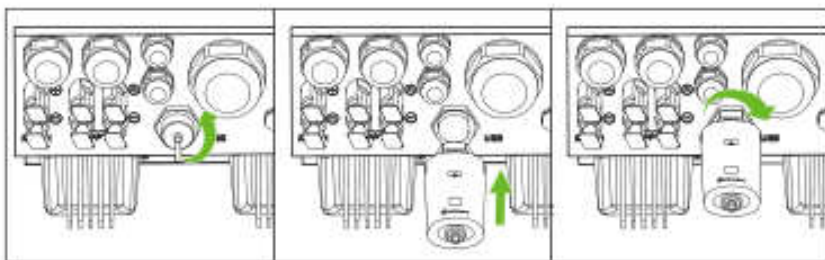

Fig.6.21 USB Connection
- 2> As shown in Fig 6.21, Insert the WiLAN-X2 module into the USB interface, and the LED indicator of the WiLAN-X2 module will be on.
- 3> As shown in Fig 6.21, make sure that the is facing frontwards as the inverter has been wall-mounted, insert the monitoring module into the USB interface, and tighten the lock.